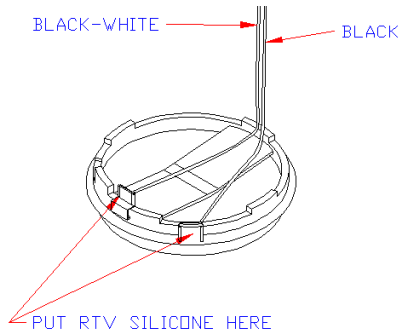

Figure 12: Transducer Wire Positioning
4. Position the wires so they lie close to the transducer and have a right angle bend as shown in **Figure 12**.